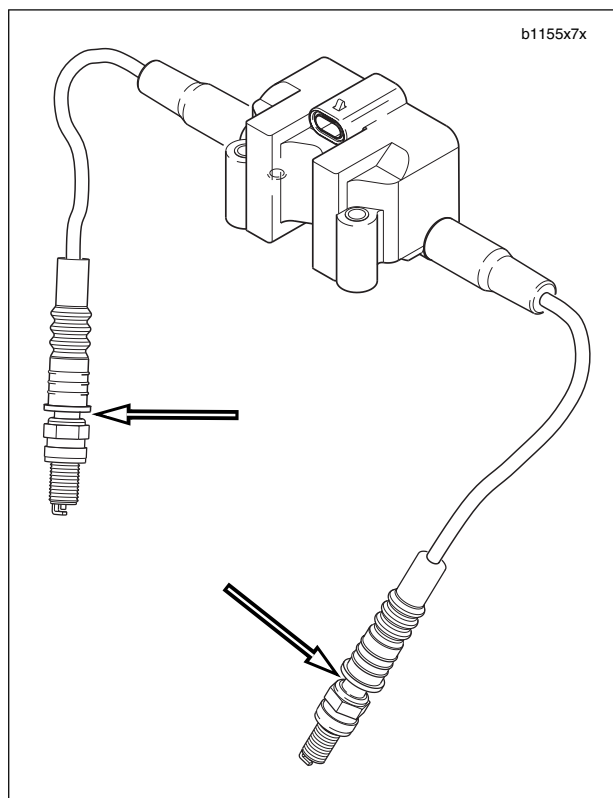

Figure 7-10. Boot Gap Should Not exceed 1/8 in. (3.2 mm)
- See Figure 7-10. When assembling the spark plug boots onto the spark plugs, make sure the boot is slid all the way down over the spark plug insulator. The gap should not exceed 1/8 in. (3.2 mm).